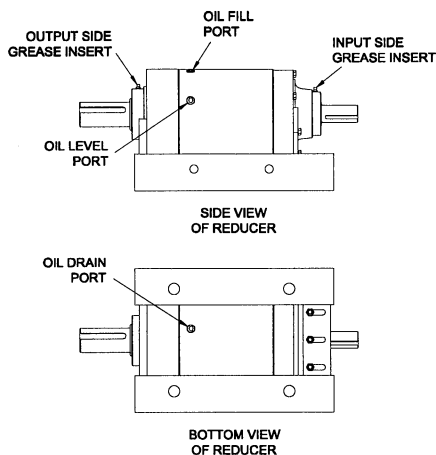

Figure 5.1 Reducer Oil Ports and Grease Insert Locations
3. Remove oil fill plug and the oil level plug (reference Figure 5.1).
2. Remove oil fill plug for ventilation (reference Figure 5.1).
1. Clean grease inserts, reference Figure 5.1 for location.